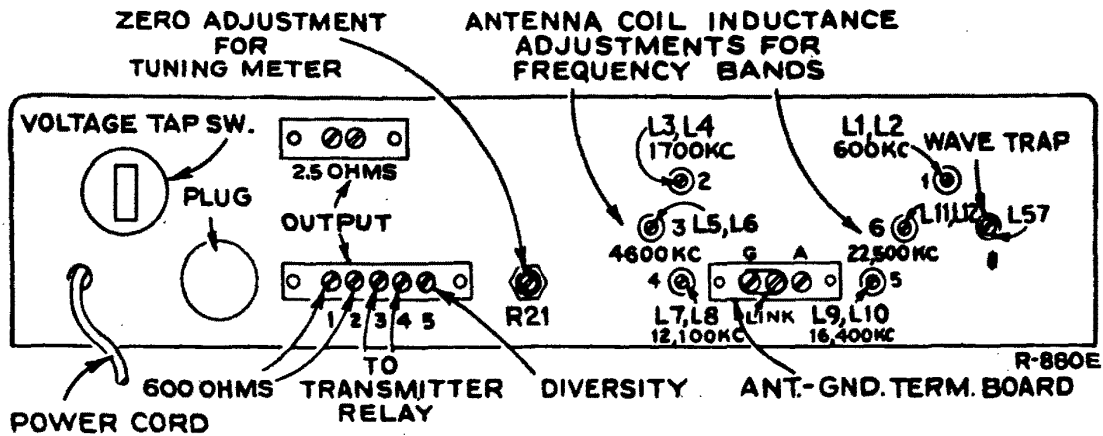

Figure 3—Diagram of Rear of Chassis
The antenna terminal board is provided with three terminals (see Figures 3 and 6), two of which may be joined together with a link. When a single wire antenna is used, the link should be closed and the antenna connected to "A." If a ground is used, it should be connected to "G." If a transmission line or balanced input is used, the link should be opened and the line connected to terminal "A" and the center terminal.
**Power Pack**—The power pack mounted on the receiver chassis consists of a power transformer, rectifier tube RCA-5Y3GT, and filter. A tap switch is provided on the rear apron for changing the power transformer voltage tap. (See Figures 3 and 6.) The voltage for which the switch is set may be read directly on the switch. The instrument may also be operated from 6V. "A" and 250 to 300 V. "B" batteries, or Vibrator Power Supply Unit MI-8319.
**Speaker**—Terminals for connection of a loudspeaker are indicated in Figures 3 and 6. The output transformer is designed to match a speaker having 2.25 ohms impedance.
2. Transmit position which gives energized tube filaments, open plate circuits, and shorted terminals for transmitter relay on the speaker terminal board on the back of the chassis. Connect relay to these two terminals for transmitter operation. See Figure 3.
**Diversity Reception** — Connect together the terminals marked "diversity," Figure 3, on two or three of these receivers, and equip each receiver with a separate antenna. The "diversity" terminal is connected inside the receiver to the AVC circuits. Tune as explained.
detector. It controls the first and second R-F and first and second I-F tubes. The tuning meter is connected in the cathode circuit of the 1st I-F tube and thus records changes in cathode current caused by changes of AVC voltage applied to the grid. The tuning meter should normally give a low scale reading when no signal is being received. To adjust this meter, tune the receiver to a point free of signals, turn the sensitivity control to maximum, switch in AVC, switch crystal "Out," have antenna trimmer turned off resonance, and then adjust the potentiometer R21 at the back of the receiver, as shown in Figure 3, until the meter pointer just coincides with the mark at the low end of the scale. The meter will usually rise slightly when the antenna trimmer is tuned to resonance.